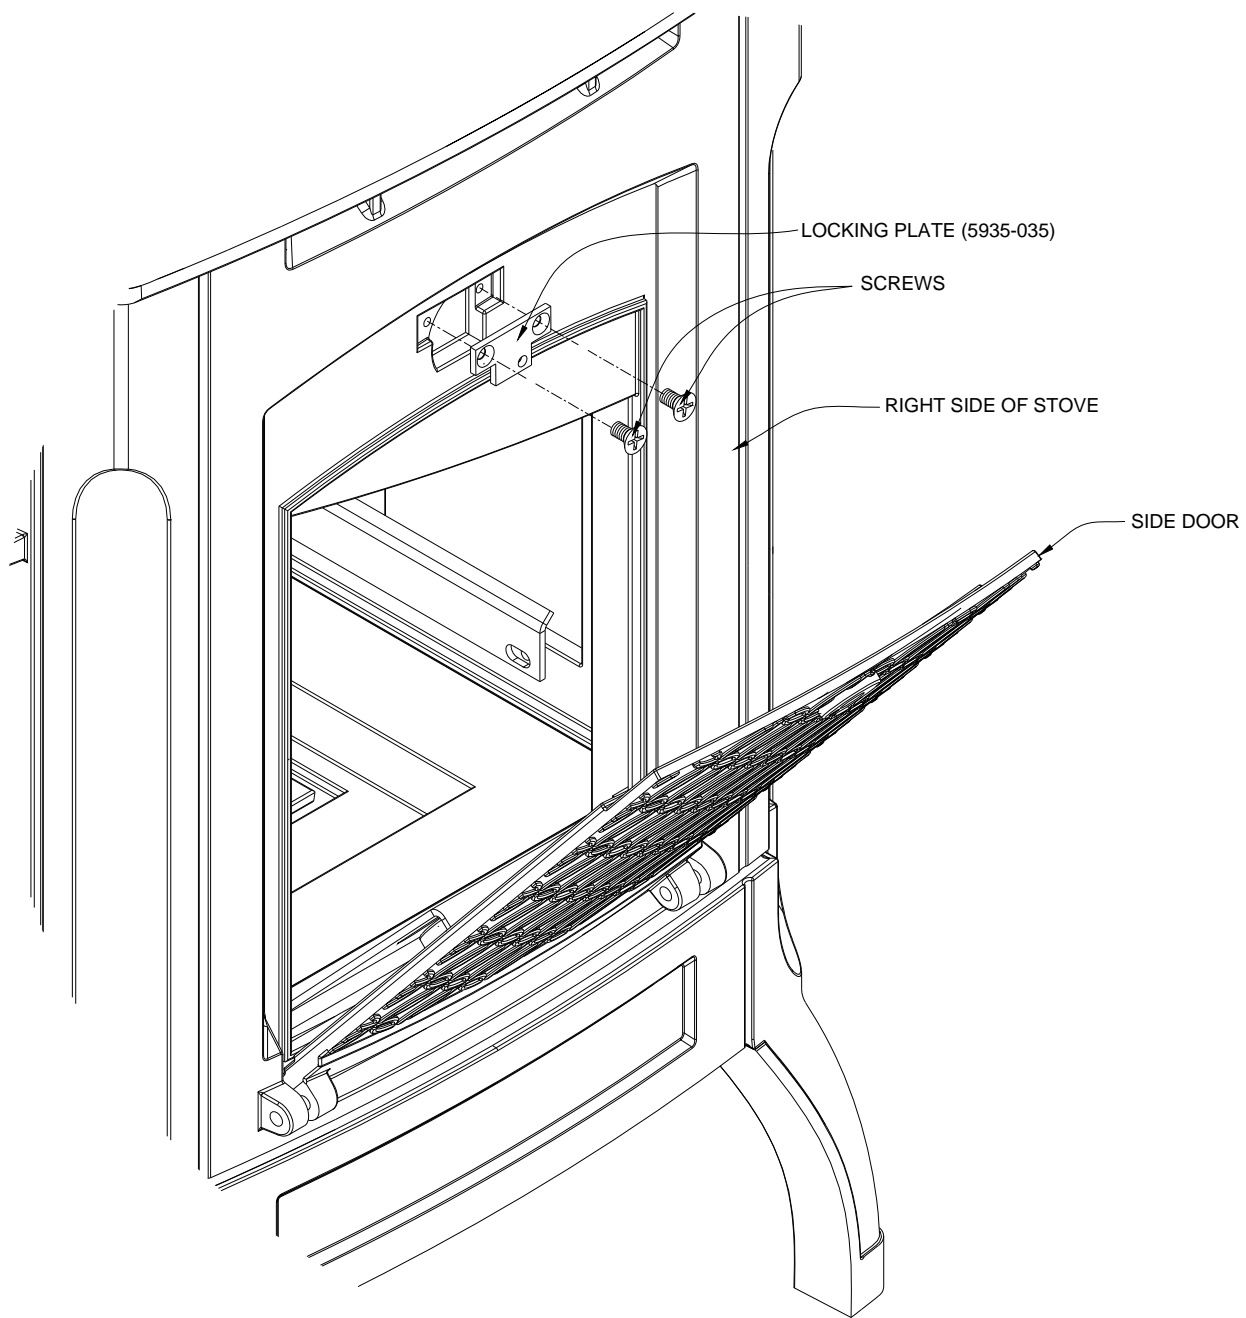

Figure 2: Locking Plate Detail
- 3) Install the locking plate. Use the (2) Phillips screws (that held in the striker plate) to attach the locking plate to the right side (Refer to figure 2).